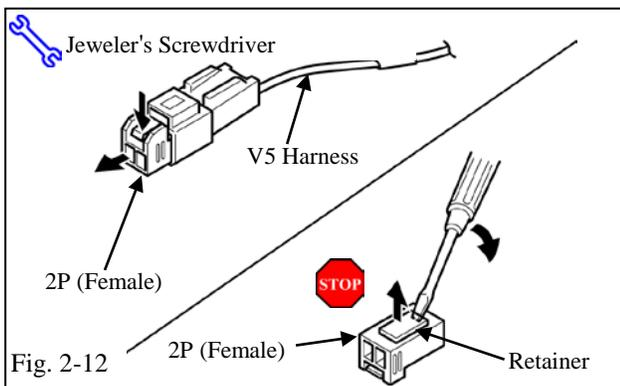

Fig. 2-12
- (r) Disconnect the empty 2P female connector plugged into the V5 harness. Using a small jeweler's screwdriver, lift up the terminal retainer on the back of the empty 2P connector. (Fig. 2-12)
- (1) Do not pull out the retainer.